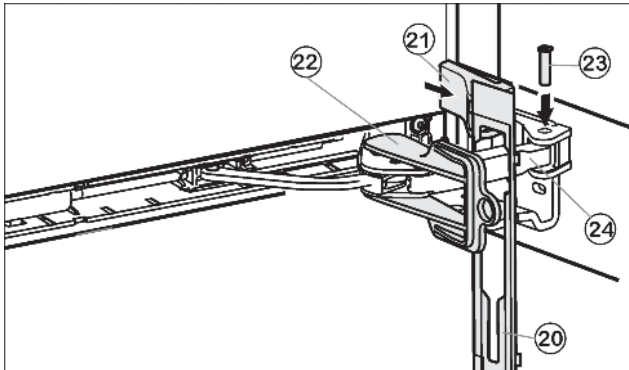

Fig. 16
- ▶ Hook panel Fig. 16 (20) into the damper bracket such that the detent hooks are pointing forwards and the front side is facing the appliance.
- ▶ Pull damper bracket Fig. 16 (24) towards bearing bracket and insert bolt Fig. 16 (23) from above such that the square is resting in the recess.
- ▶ Position cover Fig. 16 (21) and snap in.
- ▶ Remove locking device Fig. 16 (22) by twisting it.
- ▶ Snap panel Fig. 16 (20) into place on the door.